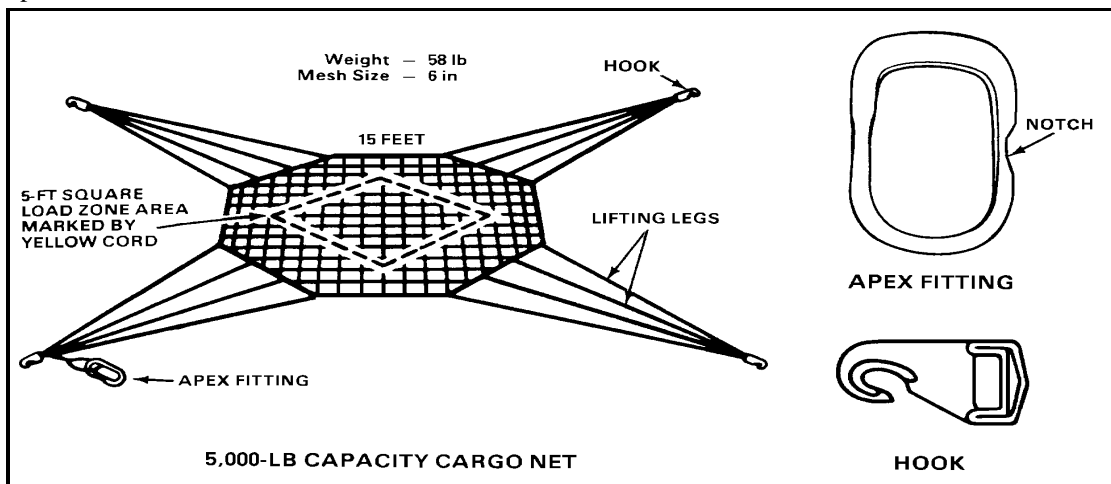

Figure 18-2. The 5,000-pound capacity cargo net
•The 5,000-pound capacity net. The 5,000-pound capacity net as shown in Figure 18-2 has a cubic capacity of 125 cubic feet. The net is octagon shaped and measures 15 feet across the flat sides. The net is olive drab in color and is made of nylon cord with webbing lifting loops. Each set of four lifting loops has a metal hook located at the top center to provide an attachment point to hook the lifting legs to the apex fitting. The apex fitting is a metal, oval-shaped device attached to one of the four suspension straps. The four hooks are hooked to the apex. The apex fitting is then attached to the helicopter cargo hook.